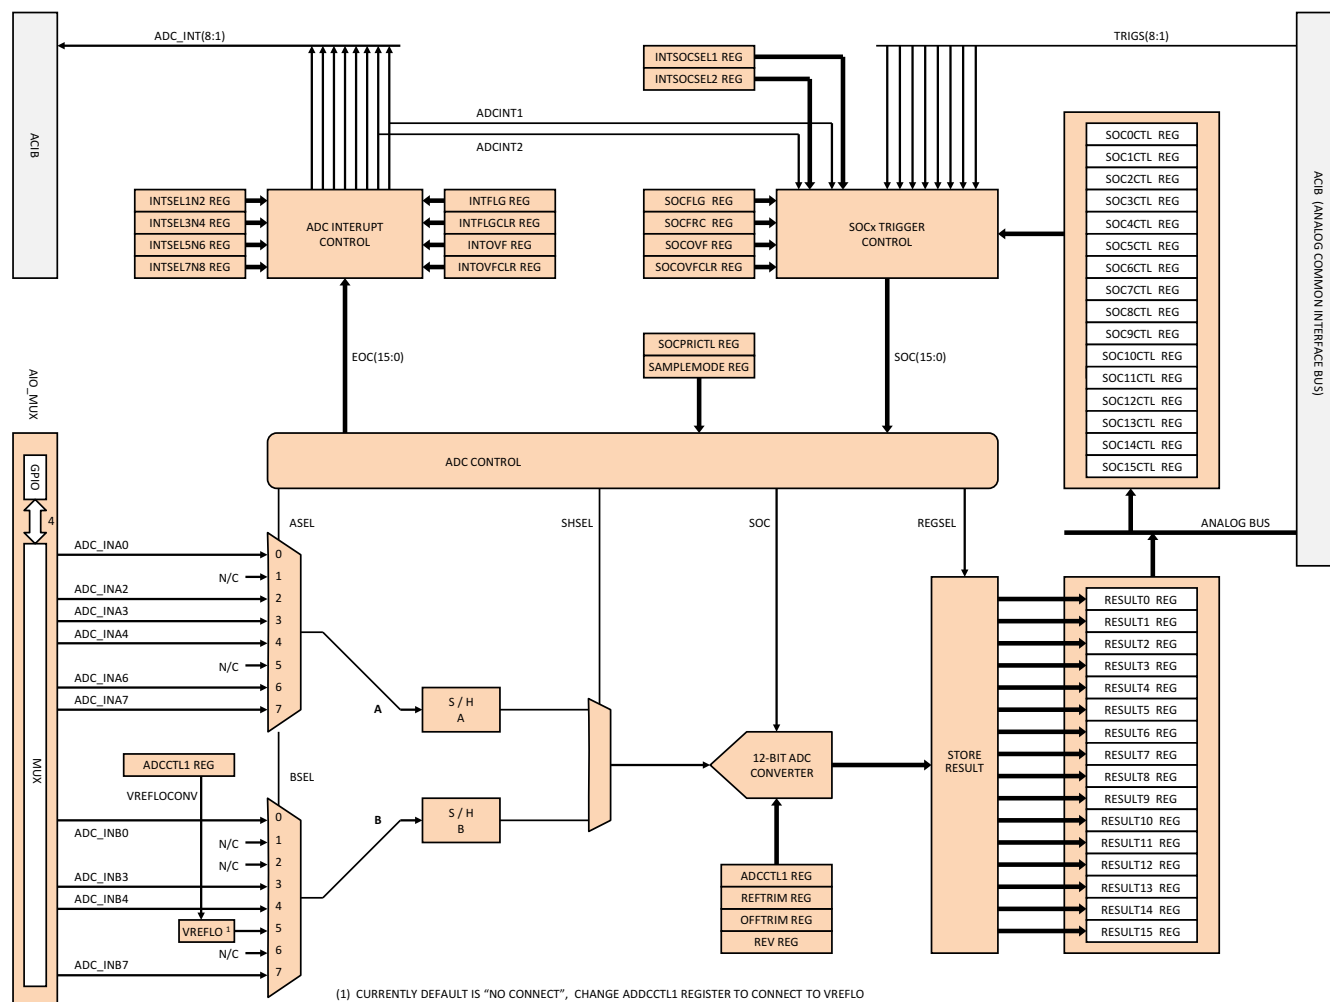

图 7-11. ADC
**Figure 7-11** shows the internal structure of each of the two ADC peripherals that are present on Concerto. Each ADC has 16 channels that can be programmed to select analog inputs, select start-of-conversion trigger, set the sampling window, and select end-of-conversion interrupt to prompt a CPU or DMA to read 16 result registers. The 16 ADC channels can be used independently or in pairs, based on the assignments inside the SAMPLEMODE register. Pairing up the channels allows two analog inputs to be sampled simultaneously—thereby, increasing the overall conversion performance.
Analog inputs to each of the two ADC modules are organized in two groups—A and B, with each group having a dedicated mux and sample-and-hold unit (see Figure 7-11). Mux A selects one of six possible analog inputs through AIO MUX. Mux B selects one of five possible analog inputs—four external inputs through AIO MUX, and one from the internal VREFLO signal, which is currently tied to the Analog Ground. The Mux A and Mux B inputs can be simultaneously or sequentially sampled by the two sample-and-hold units according to the sampling window chosen in the SOCxCTL register for the corresponding channel.